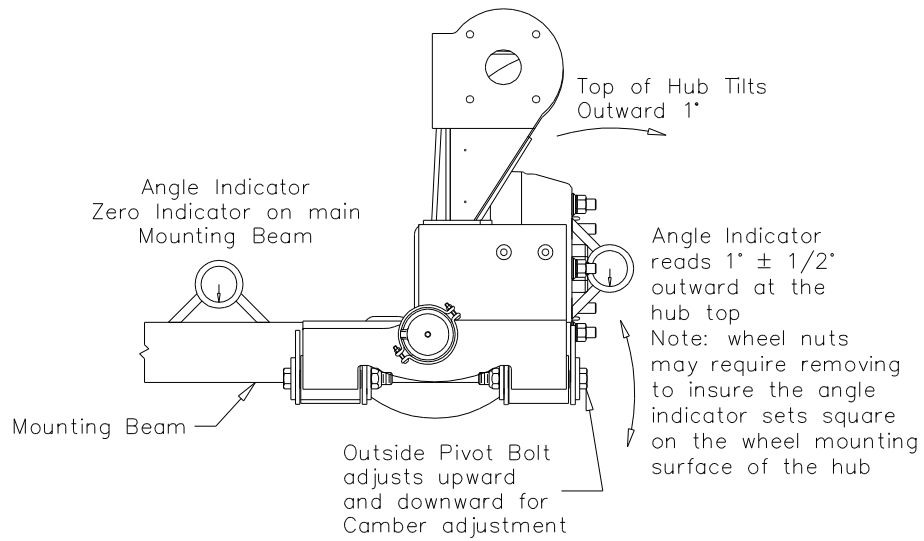

Figure 3: Camber Adjustment
Reinstall the repaired trailing arm using new fasteners. Snug the pivot bolts only. Do not torque until camber and toe-in have been checked and adjusted if required. (Refer to Figure 3 below or page 4 of the Installation drawing number 9783.)
Camber is to be set at $1^\circ \pm 1/2^\circ$ as illustrated in Figure 3 on page 15.
1. Place an angle indicator on top or bottom of the main mounting beam and zero the indicator as illustrated in Figure 3 on page 15.